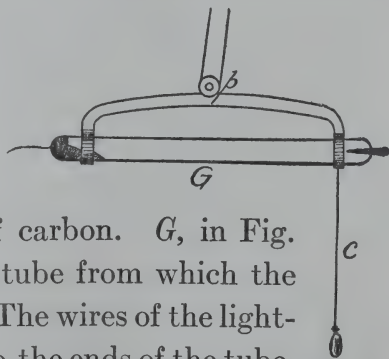

Fig. 105
27. *Mercury Vapour Lamp.*—This is an interesting variety of arc light in which the vapour of mercury takes the place of the vapour of carbon. *G*, in Fig. 105, represents a glass tube from which the air has been exhausted. The wires of the lighting circuit are fused into the ends of the tube. At one end, and in contact with one of these wires, is a small pool of mercury. By pulling the cord *c* the tube is tilted on the pivot *p*, so that a stream of